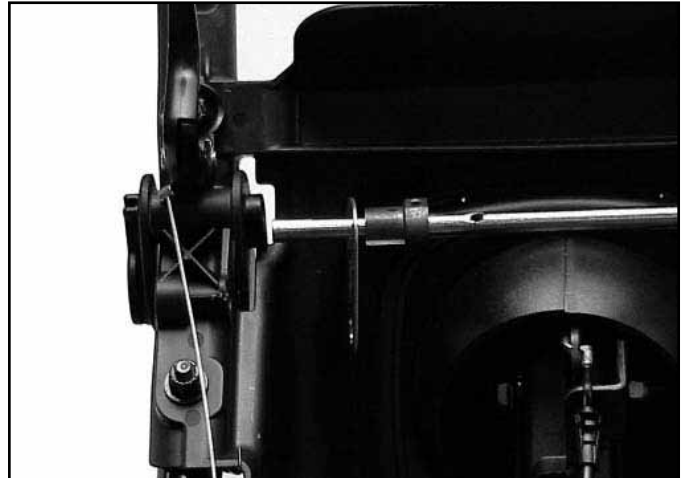

Fig 032
4. Once they are driven out the lockout rod can be moved to the side and removed (Fig. 032). The lockout link can now be removed from the lockout rod.